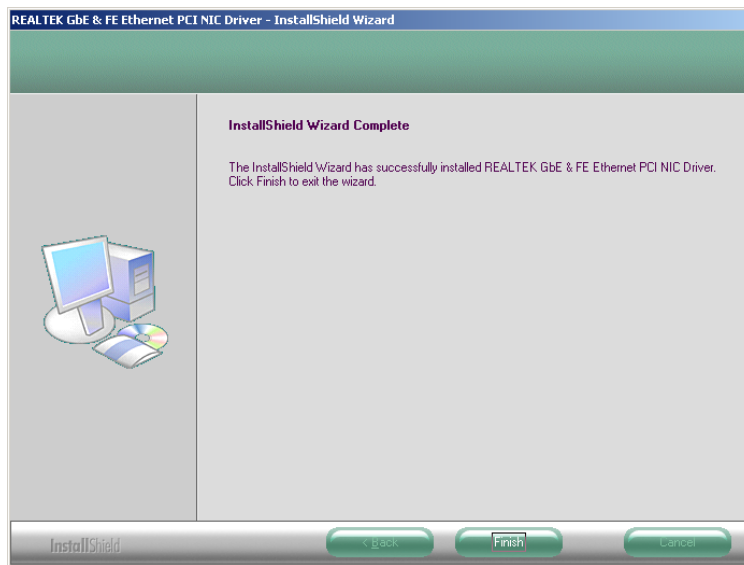

Figure 7-37: RTL8110SC Driver Installation Complete
Step 17: After the driver installation process is complete, a confirmation screen appears (Figure 7-37).